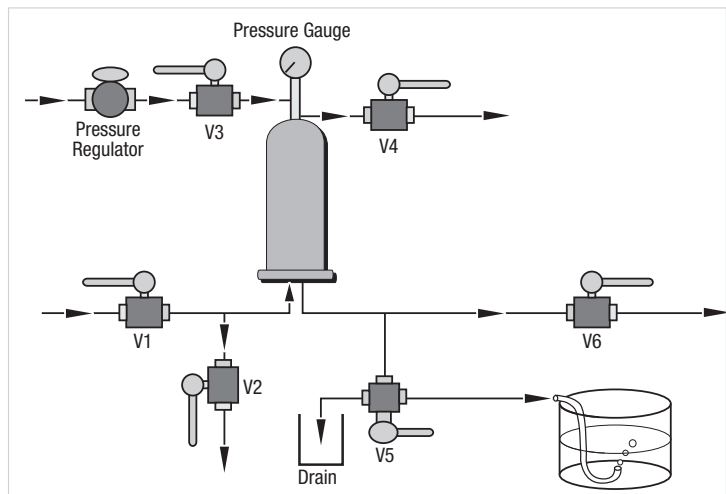

Figure 3. BPT (manual method).
## 2. Procedure (Manual Testing — Figure 3)
A. Configure the system as shown in Figure 3.